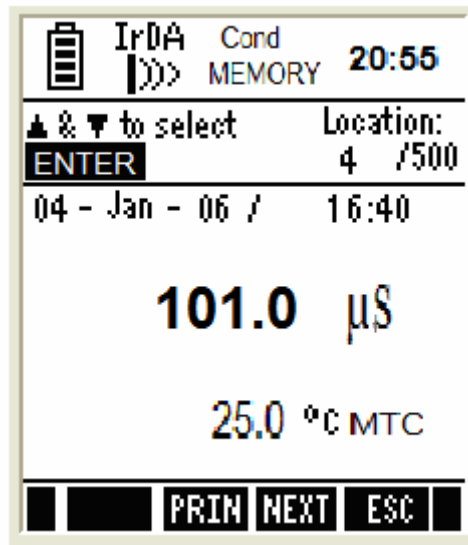

Figure 36 : Viewing stored data
3. Press **MEM (F2)** key to view stored data. The last stored data entry is shown in the display (Figure 36). The memory location of the currently showing data entry is shown in the top-right corner of the screen. (Figure 36).
3. Go to 'stored data viewing' screen as described in above section (Figure 36).